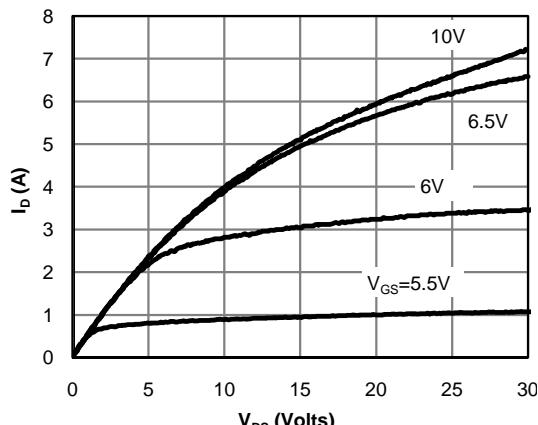

Fig 1: On-Region Characteristics
E. The static characteristics in Figures 1 to 6 are obtained using  $<300\ \mu\text{s}$  pulses, duty cycle 0.5% max.